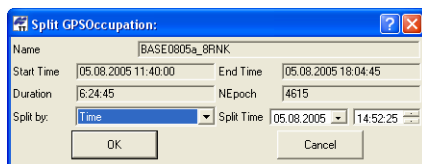

Figure 11-7. Split Occupation Dialog Box
2. You can divide an occupation using two options in the *Split GPS Occupation* dialog box (Figure 11-7).